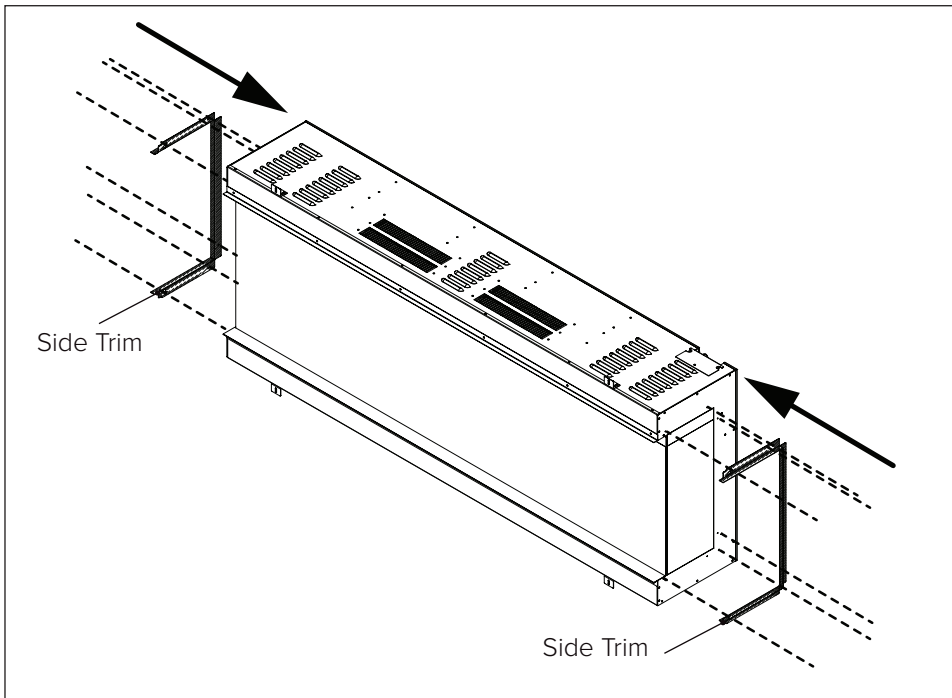

Fig. 4
1. Re-secure both side trims using the 12 screws previously removed (**Fig. 4**).